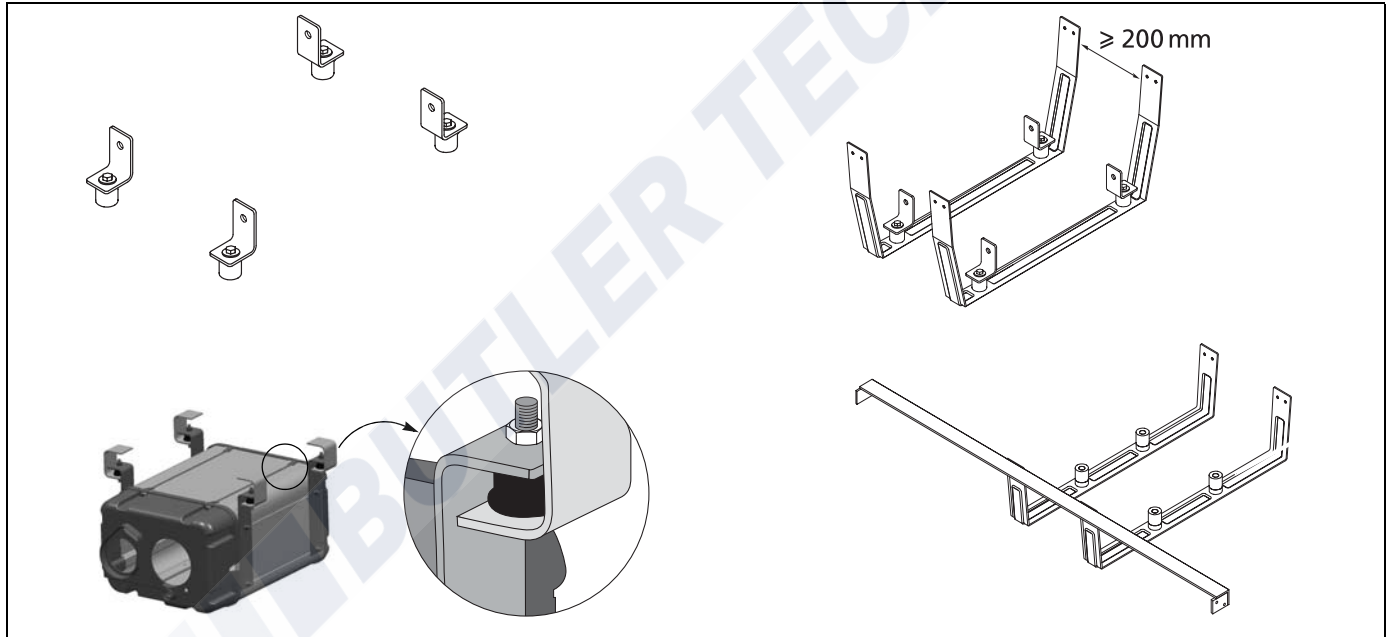

Fig. 10: Fixation brackets and vibrations dampers (Webasto examples)
- The brackets must be spaced at least 200 mm apart. See Fig. 10.